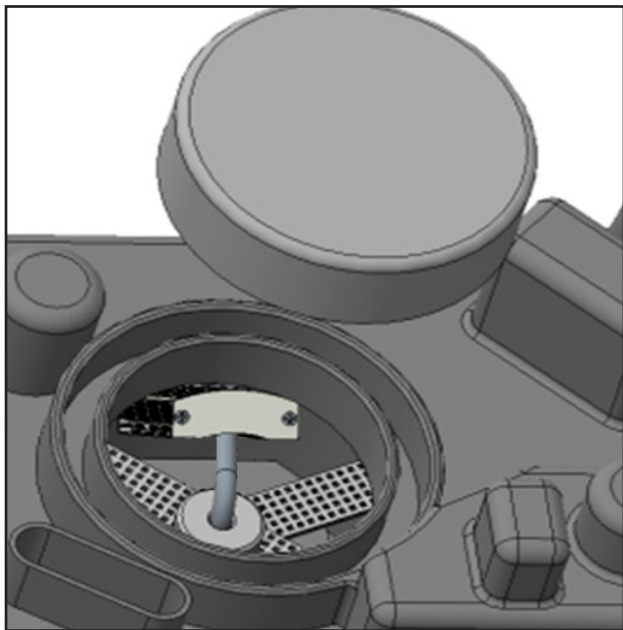

Figure 4
STEP 8. Locate the power cable and driver inside the headlamp assembly (refer figure 4).